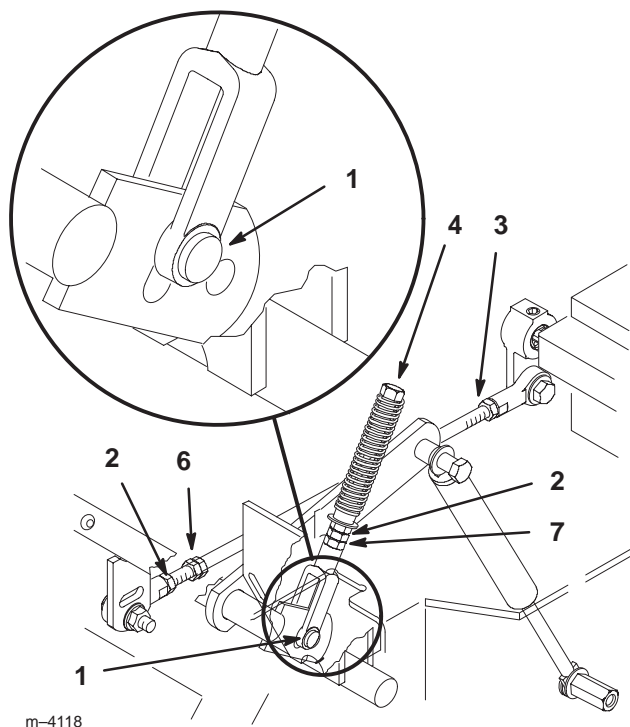

Figure 51
4. If adjustment is needed, loosen the nut against the yoke (Fig. 51).
5. Apply slight rearward pressure on the motion control lever, turn the head of the adjustment bolt in the appropriate direction until lever is centered in neutral lock position (keeping rearward pressure on the lever will keep the pin at the end of the slot and allow the adjustment bolt to move the lever to the appropriate position (Fig. 51).
4. Loosen locknut at ball joint on pump control rod (Fig. 51).
6. Adjust pump rod length by rotating double nuts on rod, in the appropriate direction, until wheel is still or slightly creeps in reverse (Fig. 51).